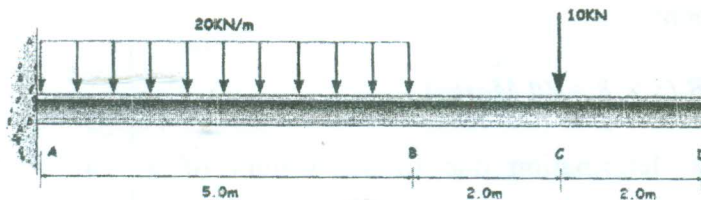

Fig 3
b) Find the slope and deflection at the free end of the cantilever beam shown in fig 3